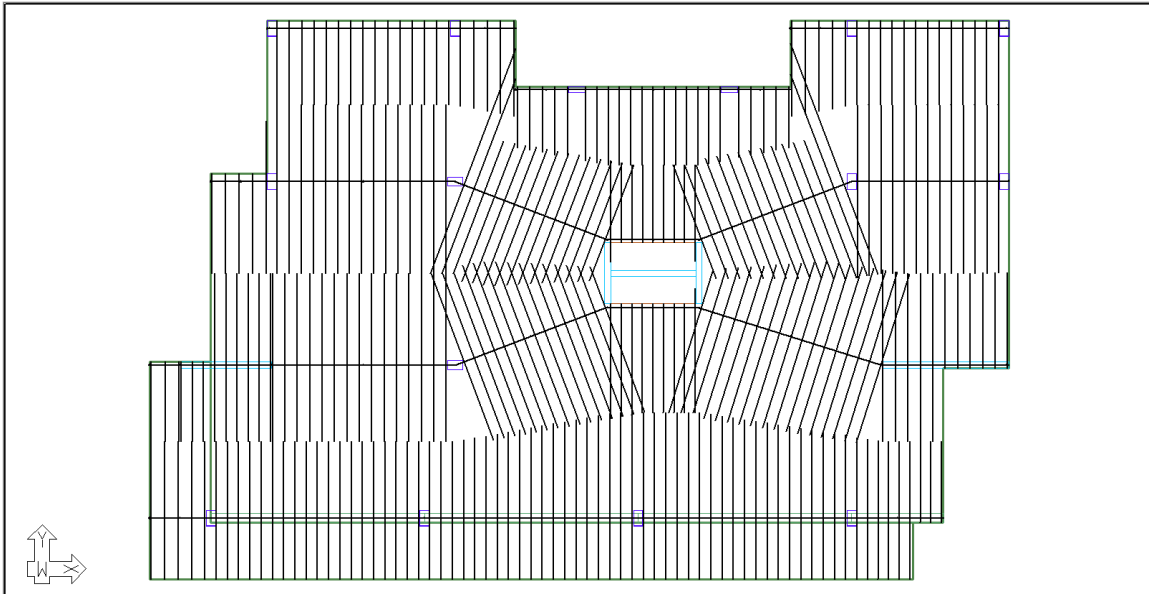

FIGURE 9-20
- Go to *Floor Design*->*Section Design* and click on the **Generate Sections**  icon. When the process is complete, the user should see design sections cut as shown in **FIGURE 9-20**.
- Click on the **Top View**  icon in the *Bottom Quick Access* toolbar. This will bring you to the view of the model shown in **FIGURE 9-20**.